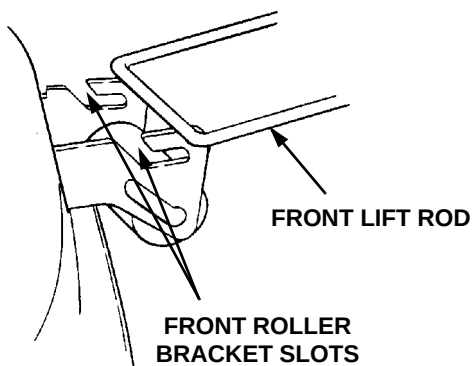

Figure 48
8. Raise the tractor implement lift handle to its highest setting. Roll the mower deck forward until the front lift rod slides up and out of the openings of both front roller bracket slots. Manually lift the rod out of the slots if necessary (See Figure 48).
9. Raise the front lift rod upward and slide the mower deck rearward. Lower the front lift rod so it rests on the front roller bracket of the deck, forward of the slots (Refer to Figure 48).